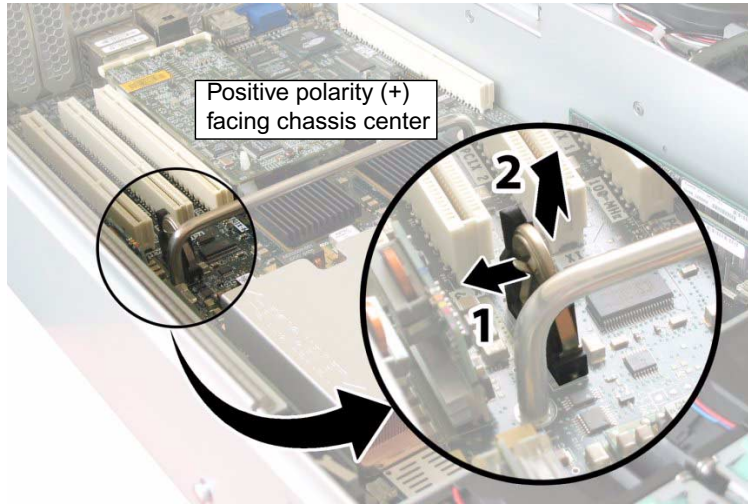

FIGURE 3-11 Removing the Battery
4. Remove the battery by gently pulling the clip away from the battery face and lifting the battery straight up (FIGURE 3-11).